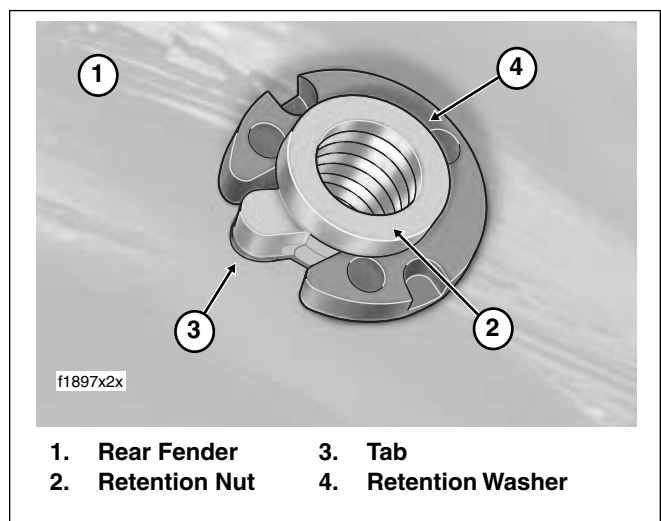

Figure 2-133. Seat Retention Nut and Washer
2. See Figure 2-133. With tab on retention nut seated in notch of fender hole, pull up on cable strap to hold nut snug against underside of rear fender. From the side opposite the tab, slide on the retention washer to lock the position of the retention nut. Remove cable strap.